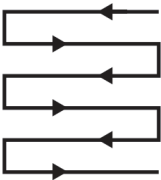

Fig 13
5. Mow in slight overlapping rows. The most effective way all the lawn is cut without missing any spots (Fig. 13).